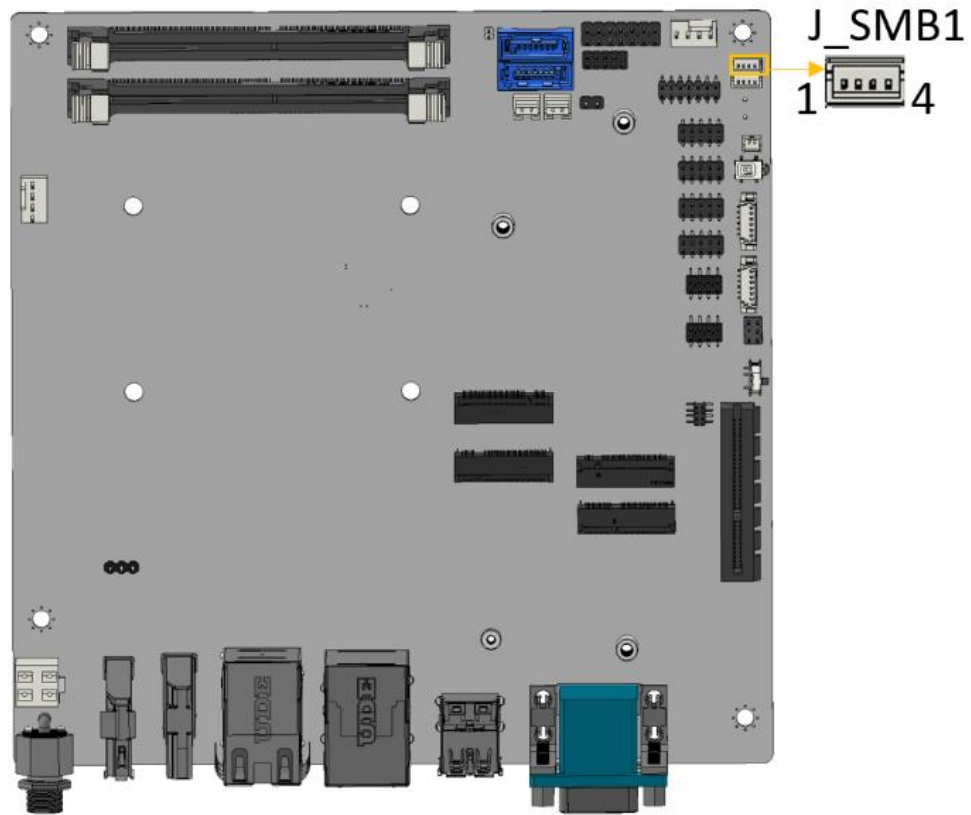

Figure 3-17: SMBus Connector Location
- CN Location:** See **Figure 3-17**